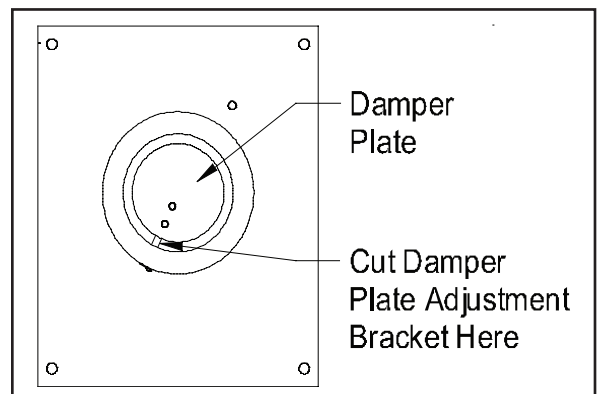

Figure 6
2. Using a pair of sheet metal cutters, cut the Damper Plate Adjustment Bracket. (See Figure 6) Then remove the Damper Plate and Adjustment Bracket.